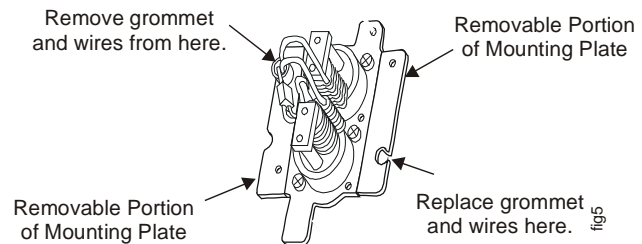

Figure 5: Grommet Locations
13. If they are not on the same side, remove the grommet of the new replacement valve and insert it into the other side of the mounting plate (Figure 5).
17. Break off the portion of the plate that protrudes if it interferes with surrounding surfaces (Figure 5).